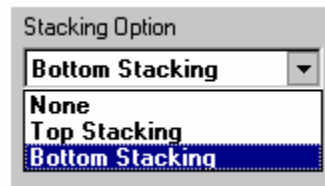

Figure 5: Top & Bottom Stacking
**Result:** When stacking is successful, the SPUs in the Configuration Worksheet view (**CPU** tab) will have the stacking status shown properly with each pair having one SPU designated as **Bottom Stacking** and its companion SPU designated as **Top Stacking** as shown in Figure 5 below. In the System Diagram view, the same physical orientation of the units should hold.
The CPU tab of each VClass SPU contains a stacking option selection. An SPU can be configured as “top stacking”, “bottom stacking”, or “none” as shown in Figure 5 above. Stacking an SPU means that one SPU is physically placed on top of another SPU.